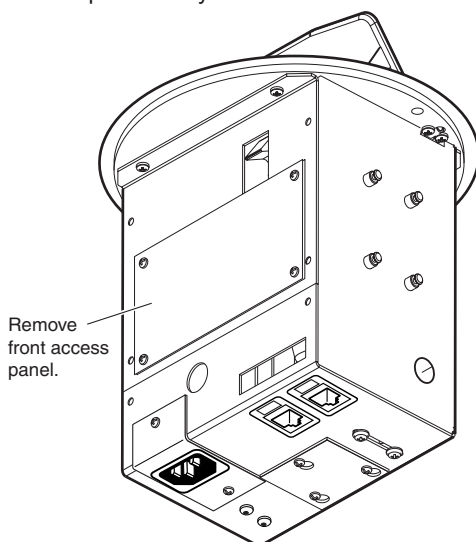

Figure 20. Removing the Front Access Panel (HSA 222 Models)
2. **(HSA 222 models only)** Remove the four Phillips head screws from the front access panel (see figure 20). Retain the screws. Lift the panel away from the enclosure.